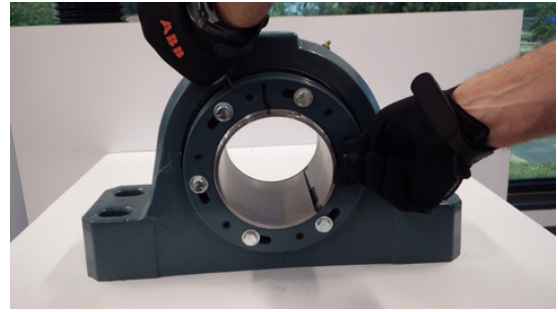

**Figure 2 - Mark face of external nut and adapter.**
4. **Important: Mark a line on the adapter and external nut to be used as a location reference – see Figure 2. This is a critical point and represents the location of the nut assembly before the hex head bolts are tightened.**